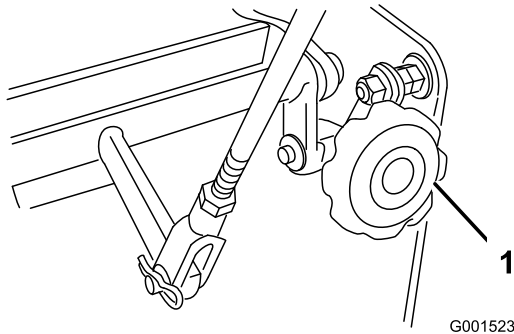

Figure 54
4. If the unit tracks to one side or the other, turn the quick track knob. Turn the knob right to steer right and turn the knob left to steer left (Figure 54).